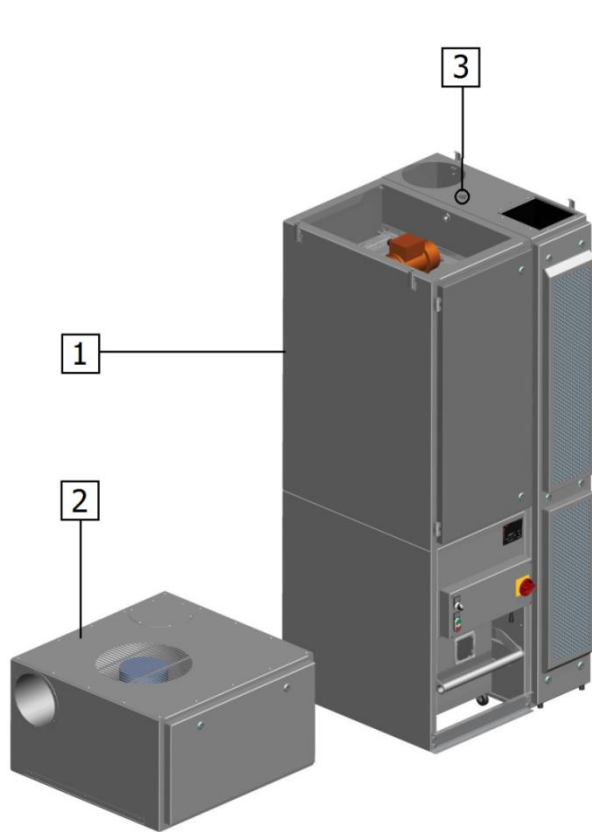

Figure 2: V80C Mini in two parts
In this case you receive the MINI V80C in two parts, see Figure 2:
**NOTICE:** When placing the fan box, a cable with plug for connecting the fan is sticking out from underneath the fan box. Please ensure that it is not clamped or damaged in any way. Also ensure that the plug is lead through the provided hole (Figure 2, pos. 3).